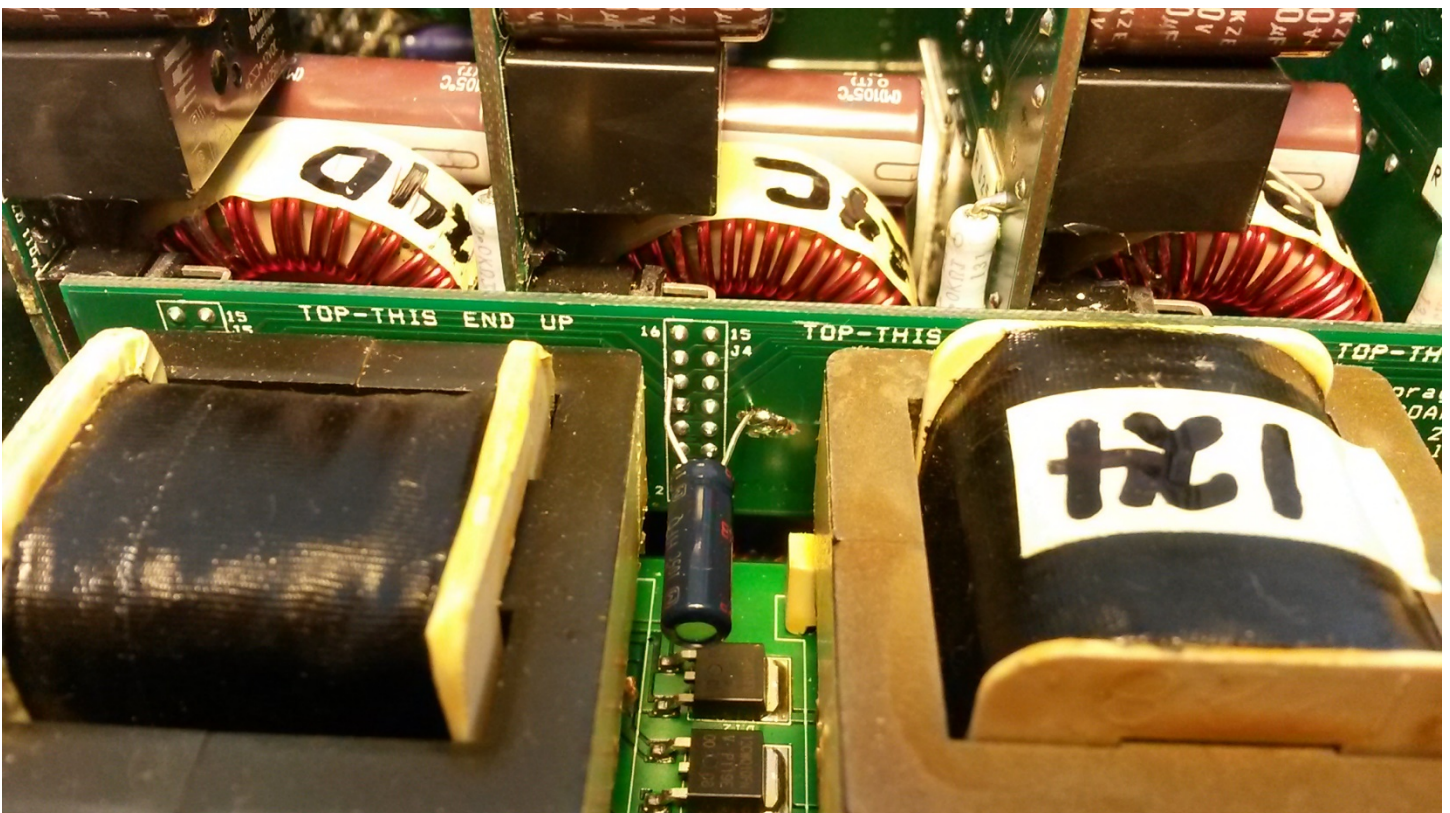

Figure 3.
Step 4 – Solder the **bent positive lead** of the capacitor to the +50V bus as shown in Figure 3. (The whole large surface area of the PCB copper on this side of the board is the +50V supply bus) Use flux when soldering and clean with small cotton swap (Q-Tip) and acetone when done. Bend the newly soldered lead to position the unsoldered negative lead so that it is adjacent to the third pin down from the top on the left side as shown in Figure 3. This pin is the +38V auxiliary supply.